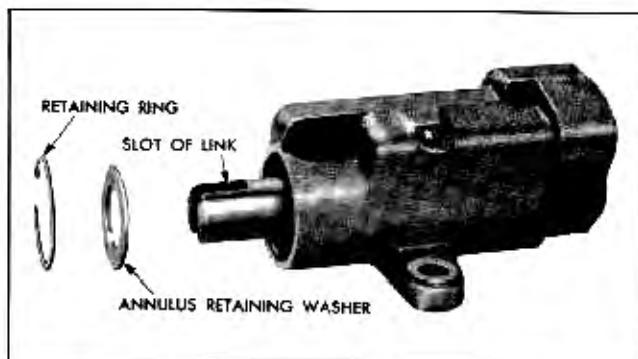

Fig. 9-30 Exploded View—Annulus Retaining Ring and Washer
1. Remove retaining ring and annulus retaining washer (Fig. 9-30) using pliers J-4245. **NOTE:** Pliers can be used more effectively if valve spool assembly is turned to a position so that pivot of pliers can be moved into slot of link.